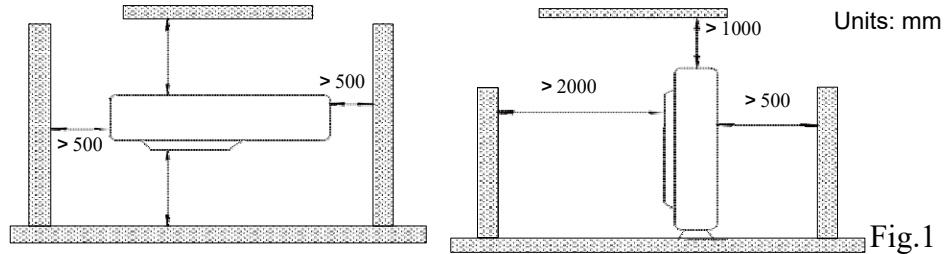

Fig.1
4. The installation space of the unit should be as required in Fig.1.